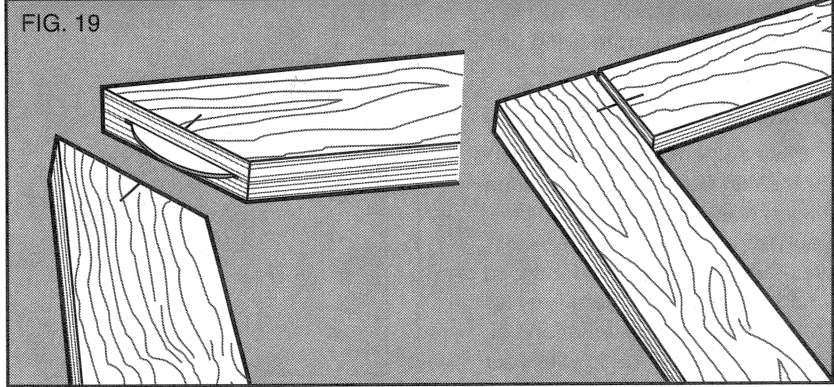

FIG. 19
2. FRAME JOINTS (SEE FIGURE 19)
Frame joints are an ideal application for biscuit joinery. With the Plate Joiner you can create a very strong, precise joint that is much faster to make than a dowel or mortise and tenon joint. Figure 19 shows two types of frame joints. Follow the steps outlined below.